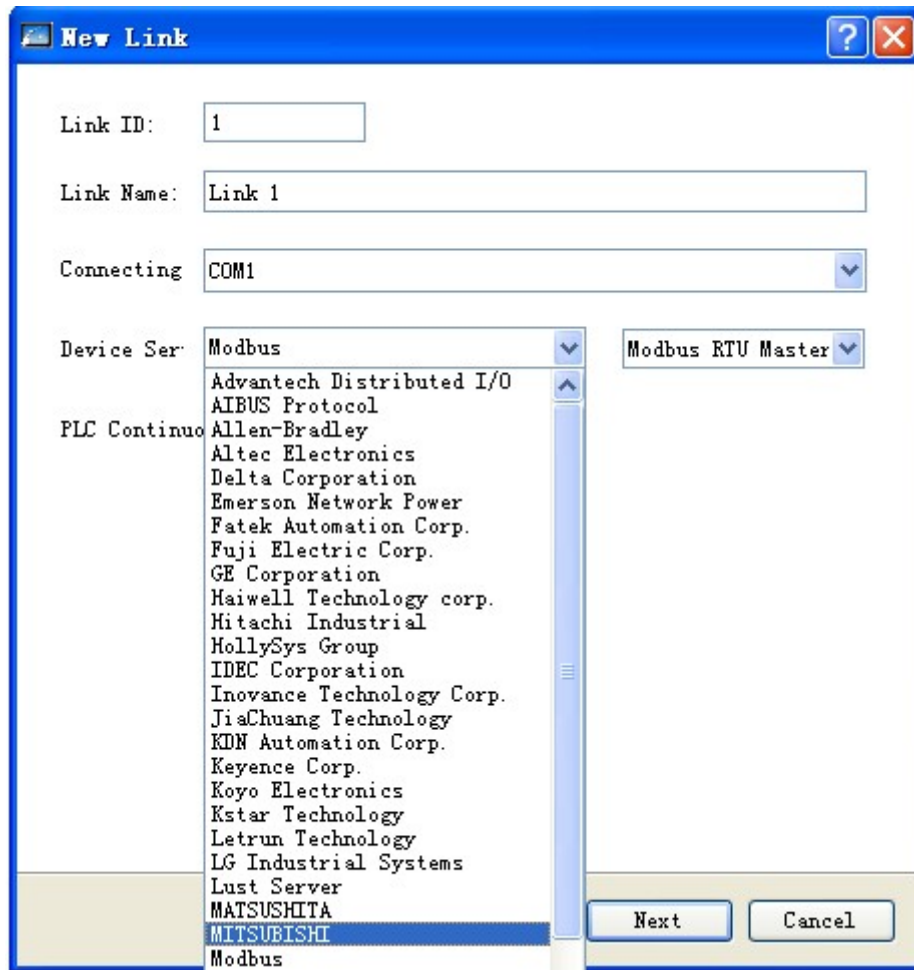

Figure 6-4 Dialog box for communication connection setting of new item
- ✓ Enter project name in column "Project Name"; select one saving position for the project in column "Position"; select "SK-043AS in column "Model Selection" (The 4.3-inch HMI is just taken for example. Users can select other models as required); select "Horizontal" in column "Display Mode" (Users can select vertical display as required). After finishing the setting, information just set by users will display in the below module "Model Parameter". Users can click "Next" after confirmation to pop up the dialog box as shown in figure 6-4.